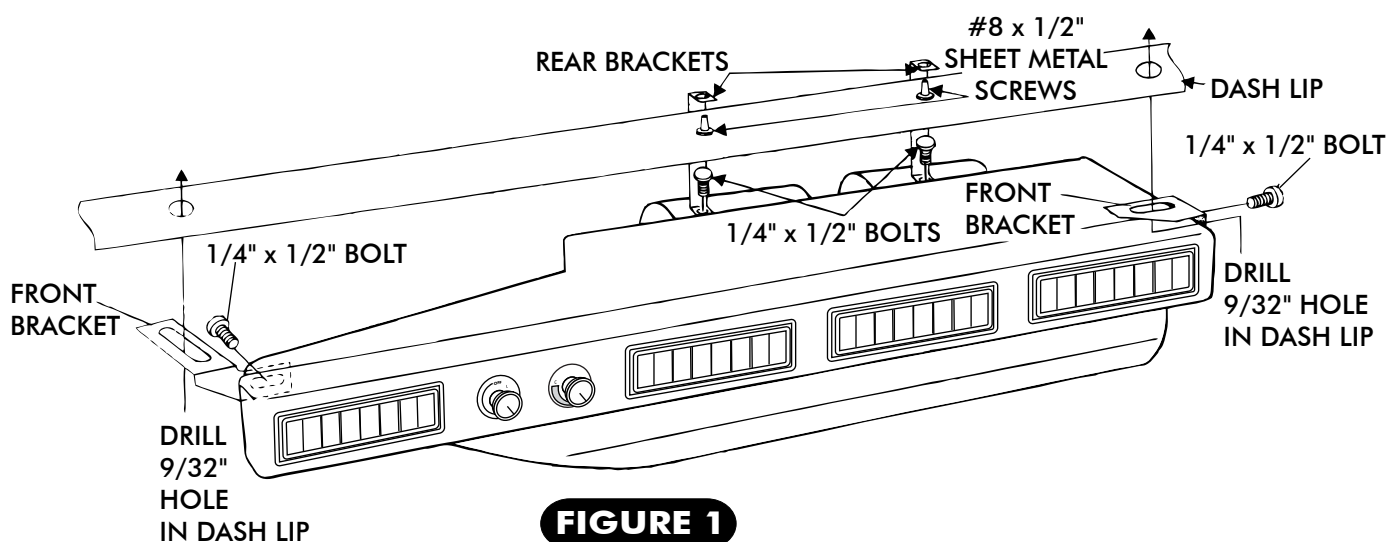

FIGURE 1
- ATTACH EVAPORATOR BRACKETS TO EVAPORATOR (SEE FIGURE 1).
- POSITION EVAPORATOR WITH BRACKETS UNDER DASH. MARK AND DRILL TWO (2) 9/32" DIAMETER HOLES UNDER THE LIP OF THE DASH.